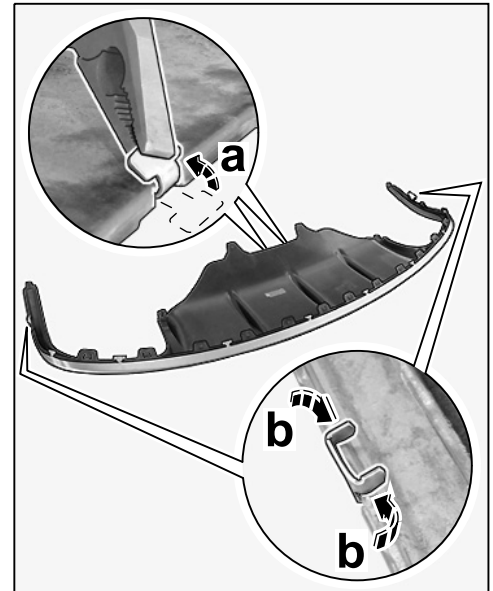

Figure 7
- 3.7 Bend the tabs on the two outer retaining pivots over by approx. 90° ⇒ *Figure 7* -**arrow b**- and by 180° on the rear retaining pivots ⇒ *Figure 7* -**arrow a**-.